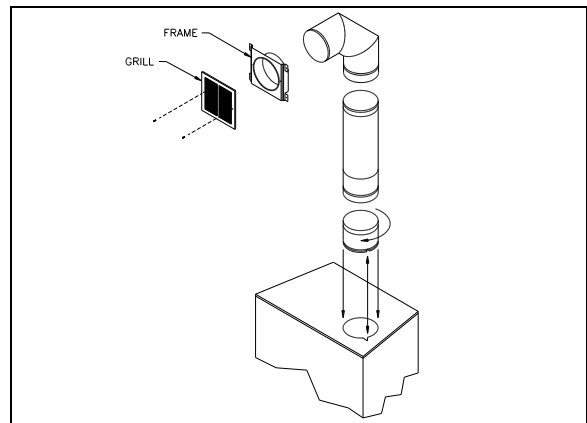

Figure 15
2. Double hot air outlet including: (See Fig.15)